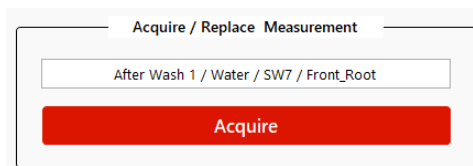

Figure 49 - Activated Acquire control
- If the measurement doesn't exist, you can acquire a new measurement by clicking on **Acquire** (**Figure 49 - Activated Acquire control**)